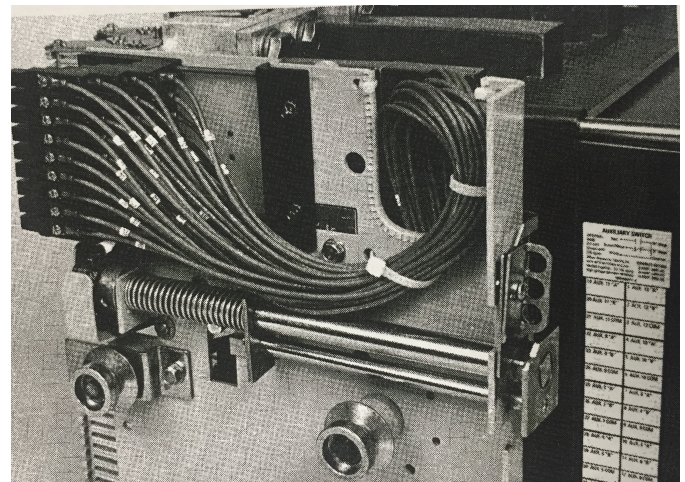
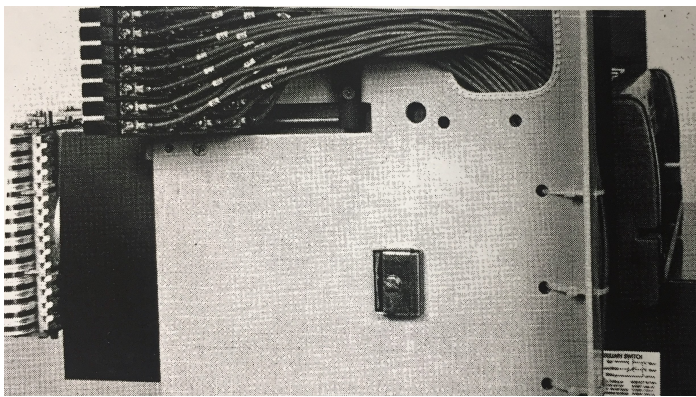

Figure 8 Routing of the secondary disconnect wires on a small-frame draw-out breaker and installing the secondary disconnect plug.
Figure 9 Routing of the secondary disconnect wires on a large-frame draw-out breaker and installing the secondary disconnect plug.
16. Slide the two mounting rods into the two holes in the secondary disconnect plug and then into the rear guide rail mounting block. Fasten the front guide rail mounting block to the side frame with two #8-32 flat-head screws, being sure to capture the two rails. Torque the screws to 20 in-lb. Route the secondary disconnect wires as shown in Figure 8 for small-frame (800-2000 A) breakers and in Figure 9 for large-frame (2500-4000 A) breakers.